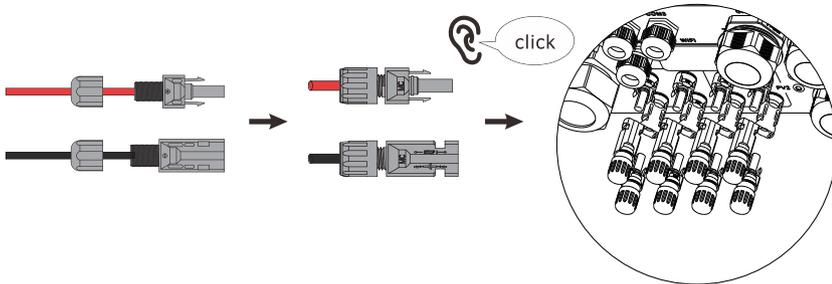

Figure 4.1-4 The PV plug is connected to the inverter
Step 4. Screw the cap on and plug it onto inverter side. There will be a click sound if connectors are inserted correctly into PV plugs, as shown in Figure 4.1-4.